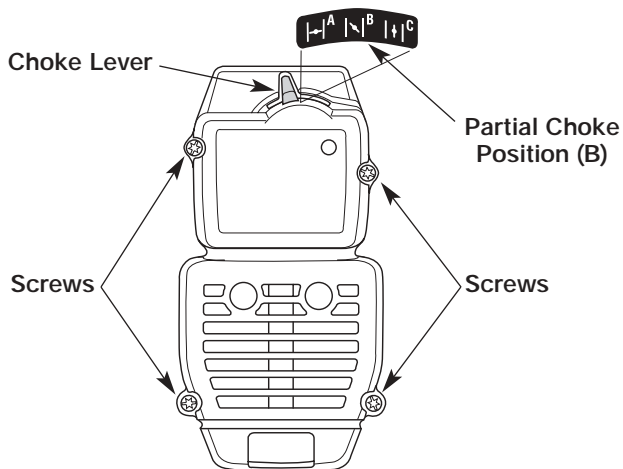

FIGURE 33
1. Place the choke lever in the PARTIAL choke position (B), Figure 33.
NOTE: The choke lever must be in the **PARTIAL choke position (B)** to remove the air filter/muffler cover, Figure 33.
2. Remove the four (4) screws securing the air filter/muffler cover, Figure 33. Use a flat blade or #T20 Torx bit screwdriver.
2. Insert the four (4) screws into the holes in the air filter/muffler cover and tighten, Figure 33. Use a flat blade or #T20 Torx bit screwdriver. Do not over-tighten. Do not force.